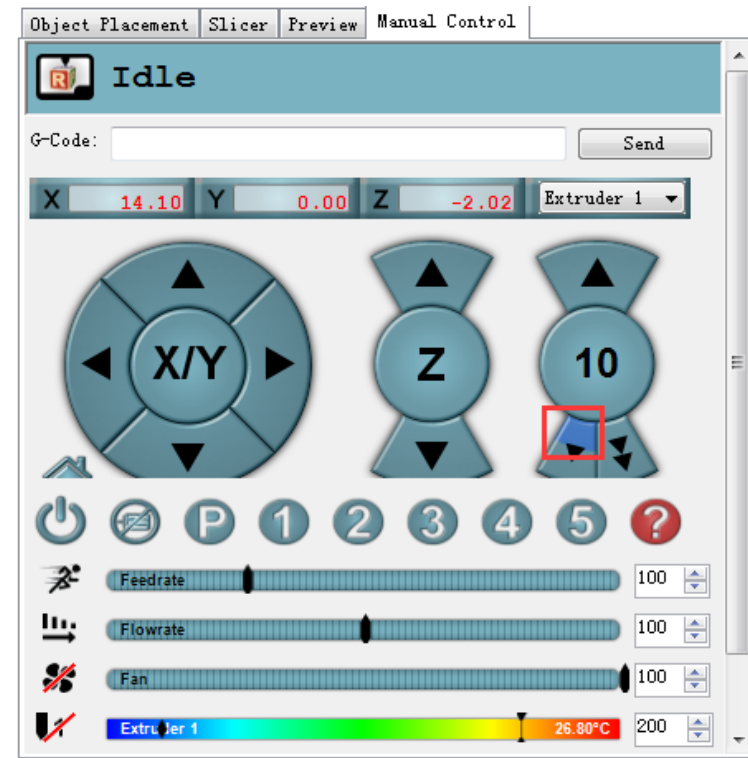

Figure 5.133 Extrude filament
2. Click the extruder feeder when the heating temperature is up to 200°C and feed up to 10mm-30mm, as shown in Figure 5.133.